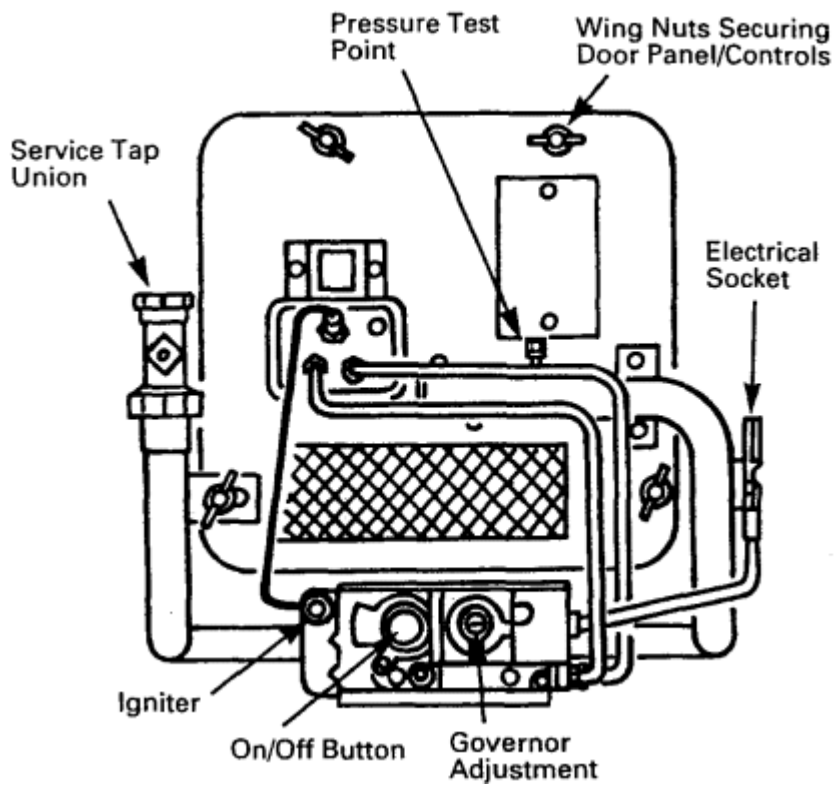

fig 7 - Burner Controls
Hold in the grey ON/OFF button on the gas control valve (Fig 7). Press the piezo unit button (Fig 7) and release. Repeat until pilot lights. Hold in the grey ON/OFF button for a further 20 seconds and then release. The pilot light should then stay alight. (IF THE PILOT FAILS TO REMAIN ALIGHT TURN THE GREY ON/OFF BUTTON CLOCKWISE, WAIT 3 MINUTES AND START AGAIN)
Remove the cover screw and adjust the appliance governor to give the correct pressure corresponding to the required input. See table opposite. Check this pressure after 10 minutes and adjust if necessary (Fig 7). Replace cover screw.
- 4) Turn off the gas supply at the service tap and disconnect the union (Fig 7).
- 5) Disconnect the electrical socket by pulling upwards (Fig 7).
- 6) Remove the four wing nuts and carefully withdraw the burner and controls assembly (Fig 7).
20) Hold in the grey ON/OFF button on the gas control valve (Fig 7). Press in the igniter button and release. Repeat until the pilot lights. Hold in the grey ON/OFF button for a further 20 seconds and then release. The pilot should then stay alight. (IF THE PILOT FAILS TO REMAIN ALIGHT, TURN THE GREY ON/OFF BUTTON FULLY CLOCKWISE AND RELEASE, WAIT 3 MINUTES AND START AGAIN FROM THE BEGINNING OF THE PARAGRAPH.) The flame should be without a yellow tip and be approximately 25mm (1 in) long. No adjustment of the pilot flame is necessary as with the restrictor screw fully open the pilot jet is sized to give the correct flame length at 20 mbar (8 in wg) inlet pressure.
22) Remove the pressure test point screw (Fig 7). Connect a pressure gauge and operate the burner by turning the thermostat knob to its highest setting.
23) Check that the pressure corresponding to the range rated output is correct for the installation (see data label). If necessary remove the cover screw and adjust the appliance governor (Fig 7).